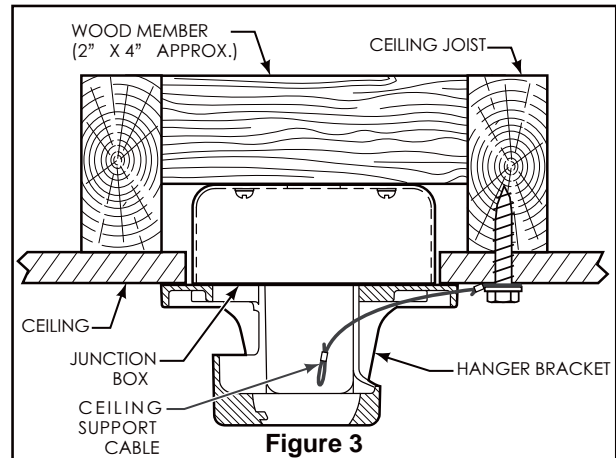

Figure 3
3. Assemble the upper housing to the motor assembly using the previously removed screws. (Figure 3)
- 3. Route the black/white, blue, red, gray and yellow wires and safety cable through the downrod. (Figure 3)
1. Using the  $\frac{3}{8}$ " x 2" lag bolt and flat washer, attach safety cable to ceiling joist or wood structural member. The lag bolt will pass through the flat washer, safety cable loop, and into the building structure (Figure 3). You will first drill a  $\frac{1}{4}$ " pilot hole into the building structure to prevent splitting or cracking.
**NOTE:** Ceiling support cable cannot be secured to junction box only, it must be directly secured to ceiling joist or structural member using the  $\frac{3}{8}$ " x 2" lag bolt and flat washer. (Figure 3)
2. Slide the receiver into the hanger bracket as shown in Figure 3.